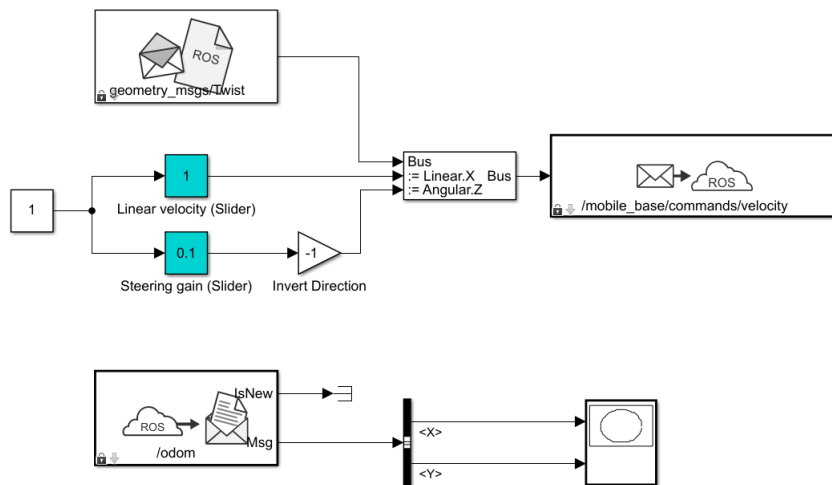

Figure 6: Simulink schematic
Figure 6 shows the entire Simulink model.
1. Remove the slider inputs that are connected to the Linear.X and Angular.Z velocity inputs of the Bus Selector block in Figure 6 and insert your Random Walker FSM from Task 1 into the schematic. Connect the outputs of your FSM to the appropriate Linear.X and Angular.Z bus inputs.